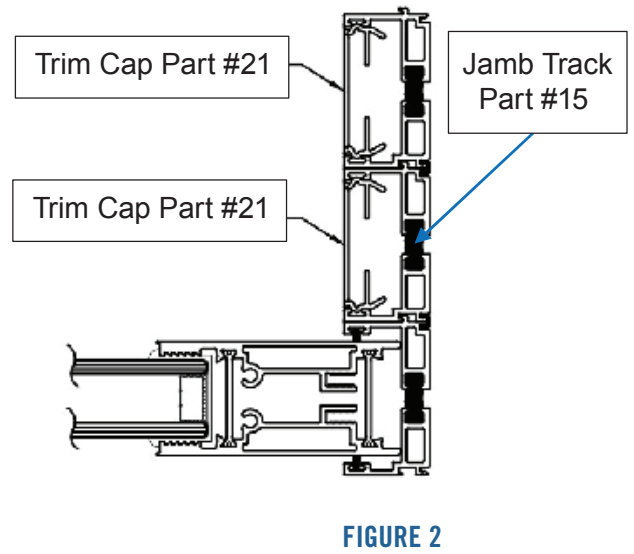

FIGURE 2
35. Install thresholds (Part #22) into the exterior and center sill tracks (Part #16a) shown in Figure 1 and the trim cap (Part #21) of the same length into the exterior and center head tracks (Part #14) shown in Figure 2.